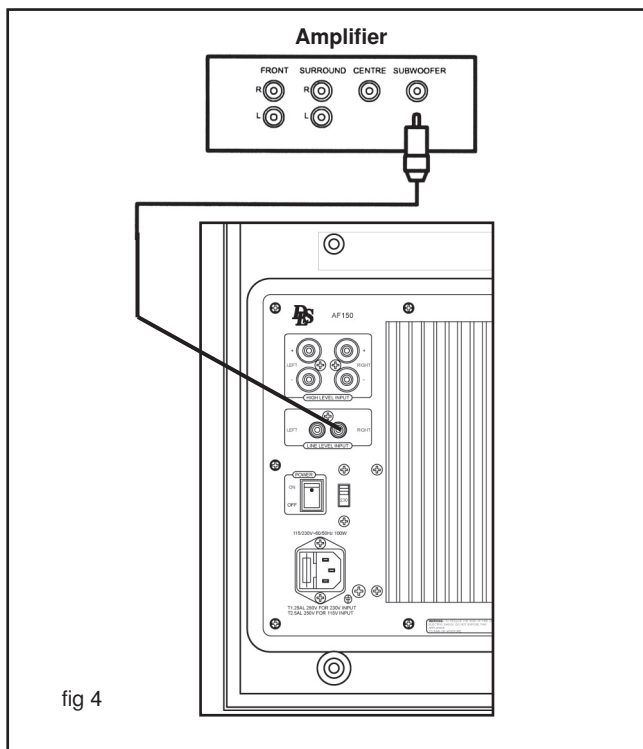
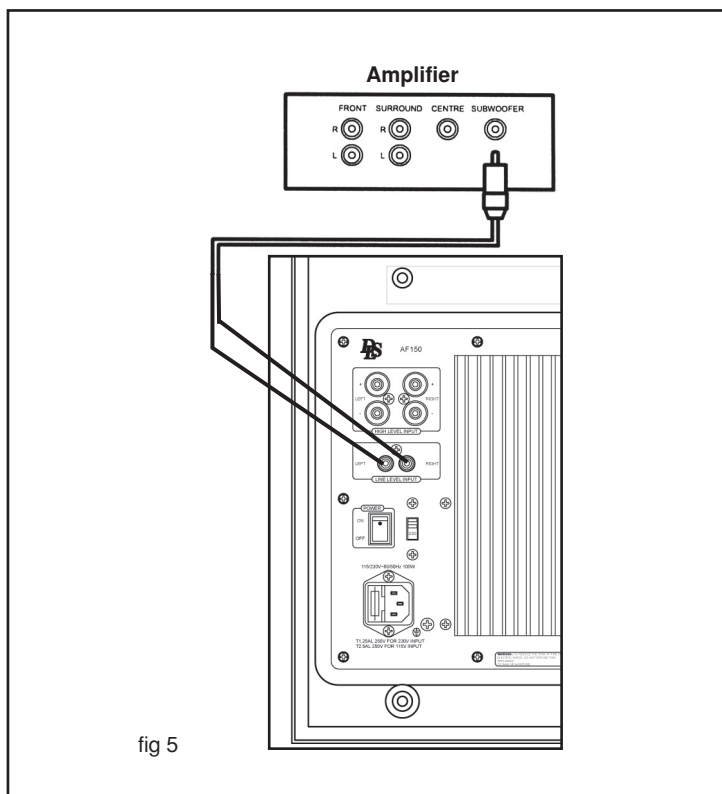

fig 4
fig 5
Surround amplifiers provide a separate subwoofer line output, use a "Line Cable" from this output to **LINE LEVEL INPUT** right (R), fig. 4. You can also use a "Split Cable" to connect the subwoofer line output to both **LINE LEVEL INPUT**, left (L) and right (R), fig.5. The sensitivity then increases with 6 dB.